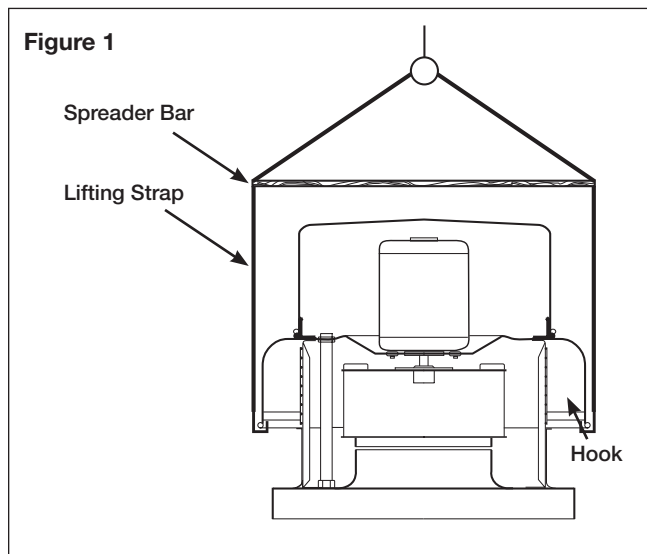

Figure 2
When lifting the unit on to the roof, use either the four lifting points on the drive frame or the two lifting points on the bearing plate if present (see Figure 2 for lifting points). Access to the drive frame is accomplished by removing the screws pointed out in Figure 3. The cover can then be removed and placed on a flat surface in an area protected from strong winds.
4. On GB Belt Drive fans, use the lifting lugs on the drive frame or bearing plate to lift and place the unit on top of roof curb. Refer to Figure 2, page 2.